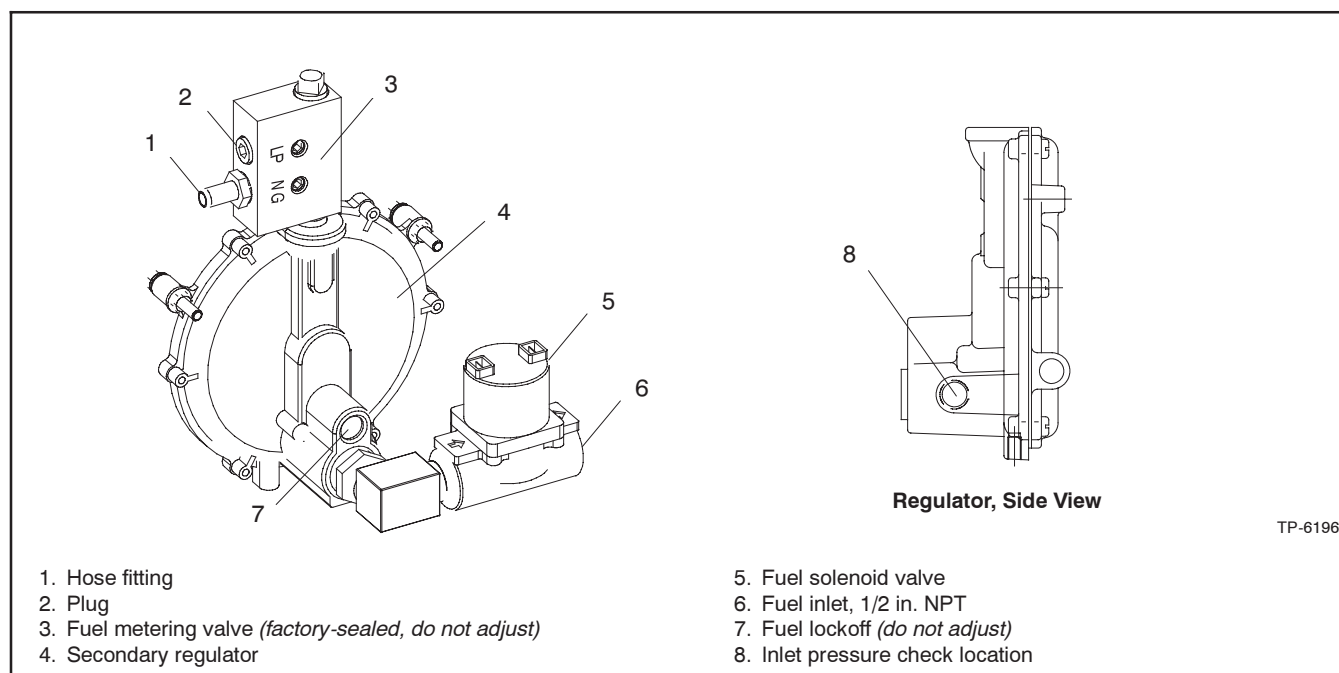

Figure 6-35 Fuel Regulator, Fuel Metering Valve, and Fuel Solenoid Valve
The fuel lock-off prevents fuel flow when the engine is not operating. See Figure 6-35. Do not try to adjust the fuel pressure, fuel mixture, or engine speed using the fuel lock-off.
Use a gauge or manometer to check the fuel pressure at the secondary regulator inlet. See Figure 6-35. Measure the fuel pressure with the generator set running at rated load. Verify that the fuel pressure is within the range shown in Figure 6-34. Contact the fuel supplier if the inlet pressure is not within the specified range.
5. Remove the hose clamp and fuel hose from the hose fitting in the fuel metering valve. See Figure 6-35.
6. Remove the hose fitting from the natural gas outlet port in the fuel metering valve. See Figure 6-35.
7. Remove the plug from the LP port in the fuel metering valve. See Figure 6-35. Clean the plug with a dry cloth or brush, apply fresh pipe sealant, and install the plug into the natural gas outlet port.